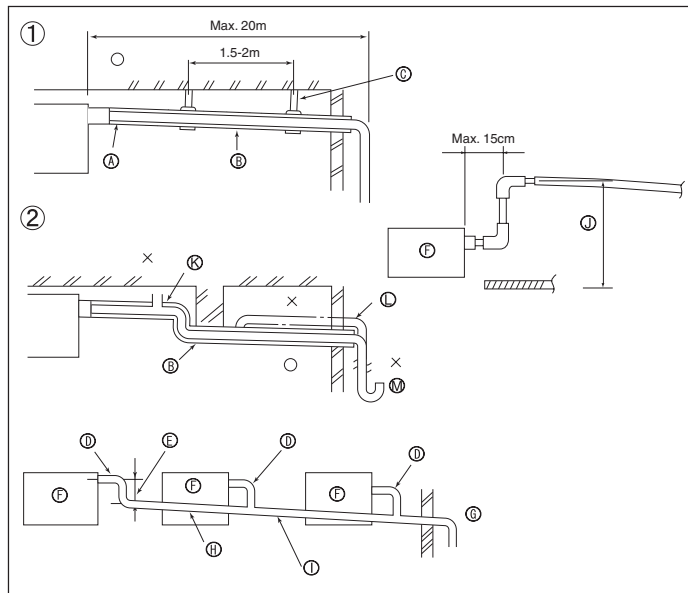

Fig. 5-1
5.1. Drainage piping work (Fig. 5-1)
- ① Correct piping
② Wrong piping